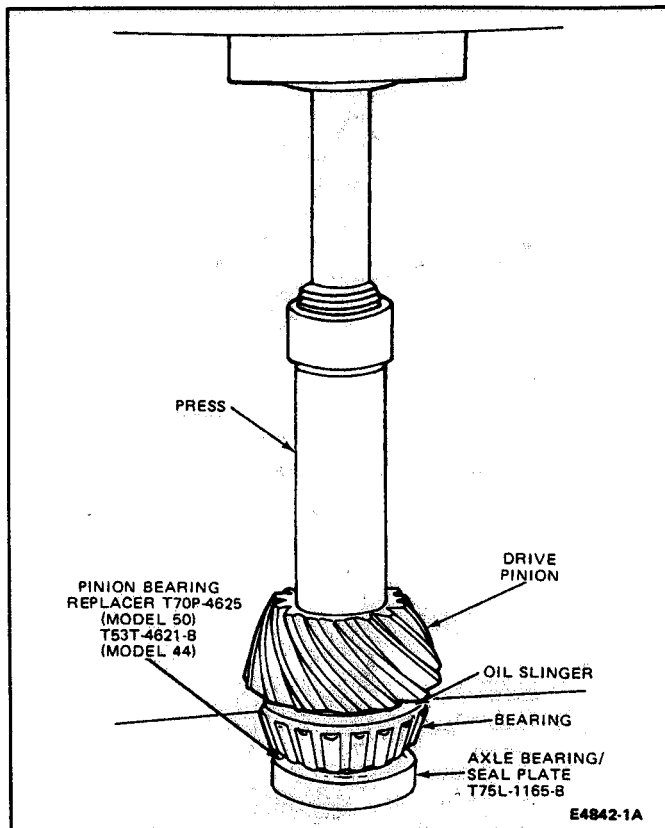

FIG. 32 Drive Pinion Bearing Installation
7. Measure shims with a micrometer to verify the shim size. Place the oil slinger (if used) (Fig. 31) on the pinion and press on the bearing using Tool T70P-4625, Pinion Bearing Replacer for Model 50 Axles or T53T-4621-B, Pinion Bearing Cone Replacer for Model 44 Axles and T75L-1165-B, Axle Bearing/Seal Plate as shown in Fig. 32.
4. Install the inner bearing cone and slinger on the pinion. Drive the bearing on the pinion shaft until fully seated using Pinion Bearing Replacer, T70P-4625 (Model 50 axles) or T53T-4621-B (Model 44 axles) and Axle Bearing/Seal Plate, T75L-1165-B as shown in Fig. 32.